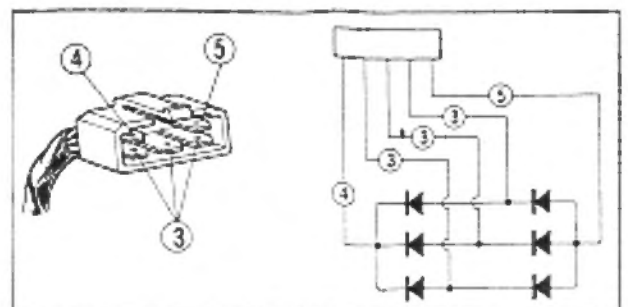

Fig. 5-18 ④ Yellow leads ⑤ Red white lead ③ Green lead
Test each diode for forward and reverse continuity with an ohmmeter or test light. Touch one of the yellow wire coupling pins ② with either of the test instrument leads, then touch the second test lead to pins ④ and ⑤ in turn. Note the continuity indication. Repeat this procedure at each of the two remaining yellow wire coupling pins ② (Fig. 5-18).